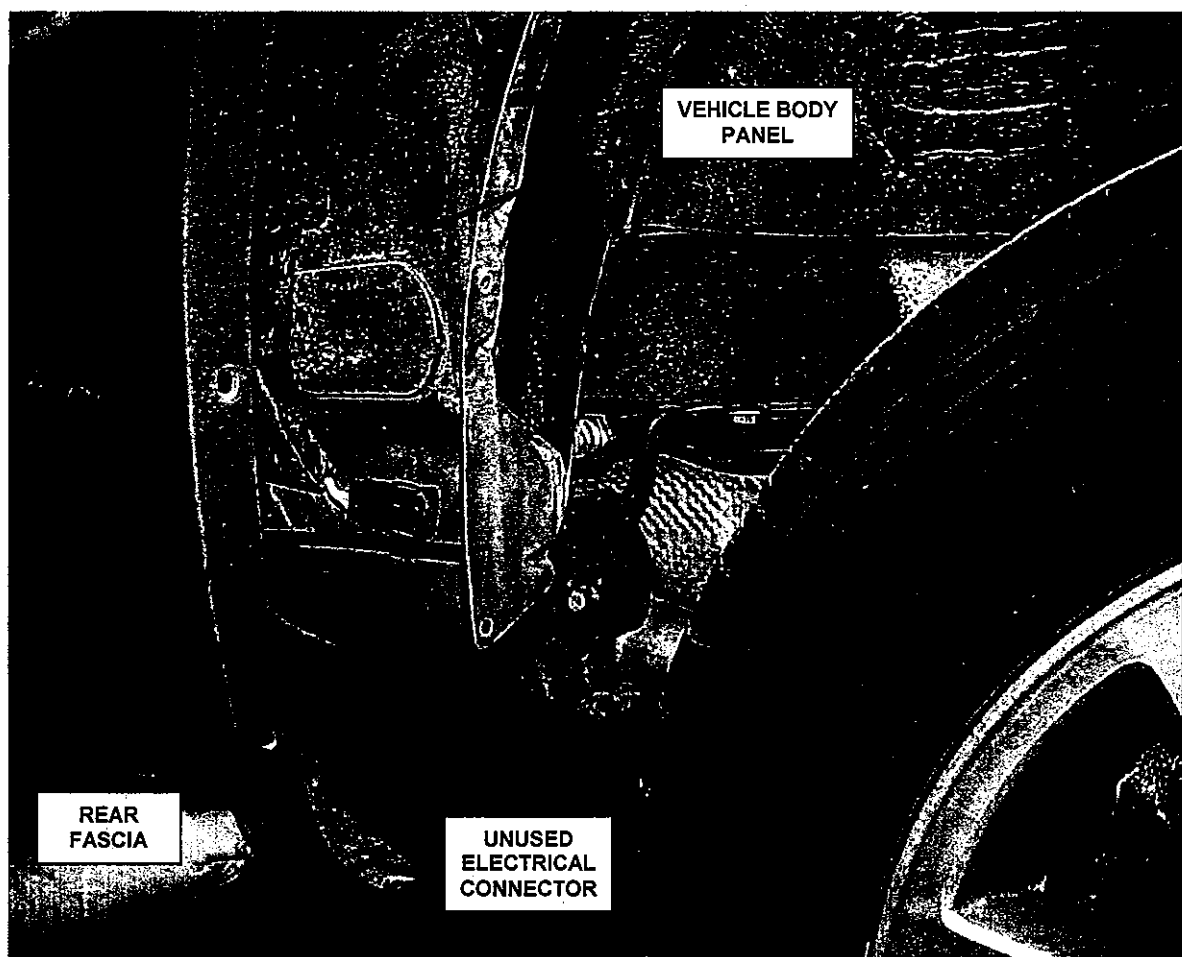

Figure 2 – Unused Connector Location
3. Carefully pull the right side of the fascia away from the body just far enough to gain access to the unused electrical connector (Figure 2).
4. Pull the connector from the vehicle body panel (Figure 2).